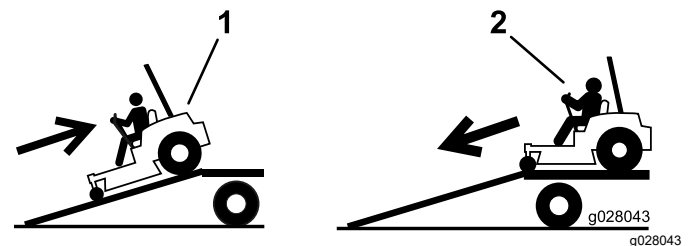

Figure 50
2. Drive the machine forward down the ramp (Figure 50).